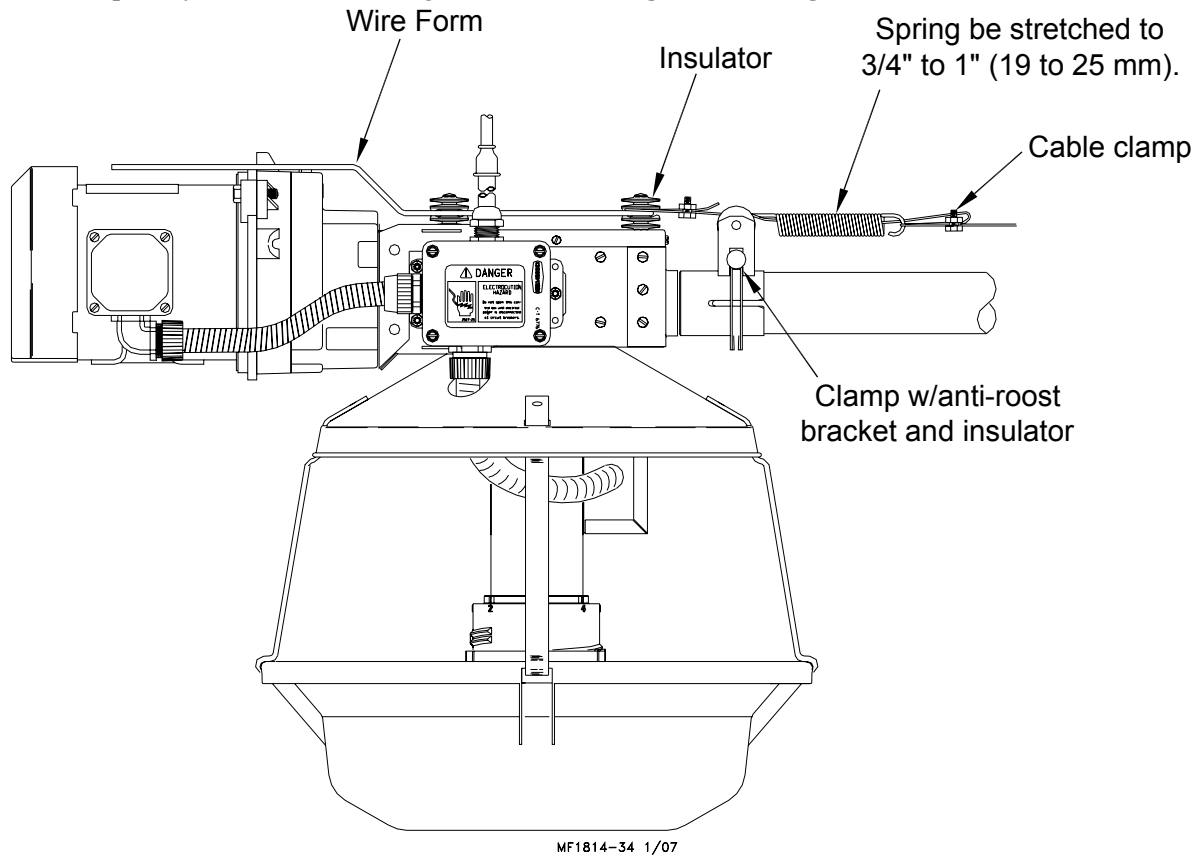

Figure 50. Anti-Roost Installation at the Control Unit
9. At the control unit, after clamping the cable to the spring, cut the cable 8" to 10" (200 to 250 mm) longer than necessary. Feed the end of the cable through the center of the spring, around the first insulator on the control unit, and clamp the cable using the cable clamp supplied with the control unit, see figure 50.
10. Install the wire from on the control unit insulators. Be sure the guard snaps into the retainers molded into the insulators, see figure 50.